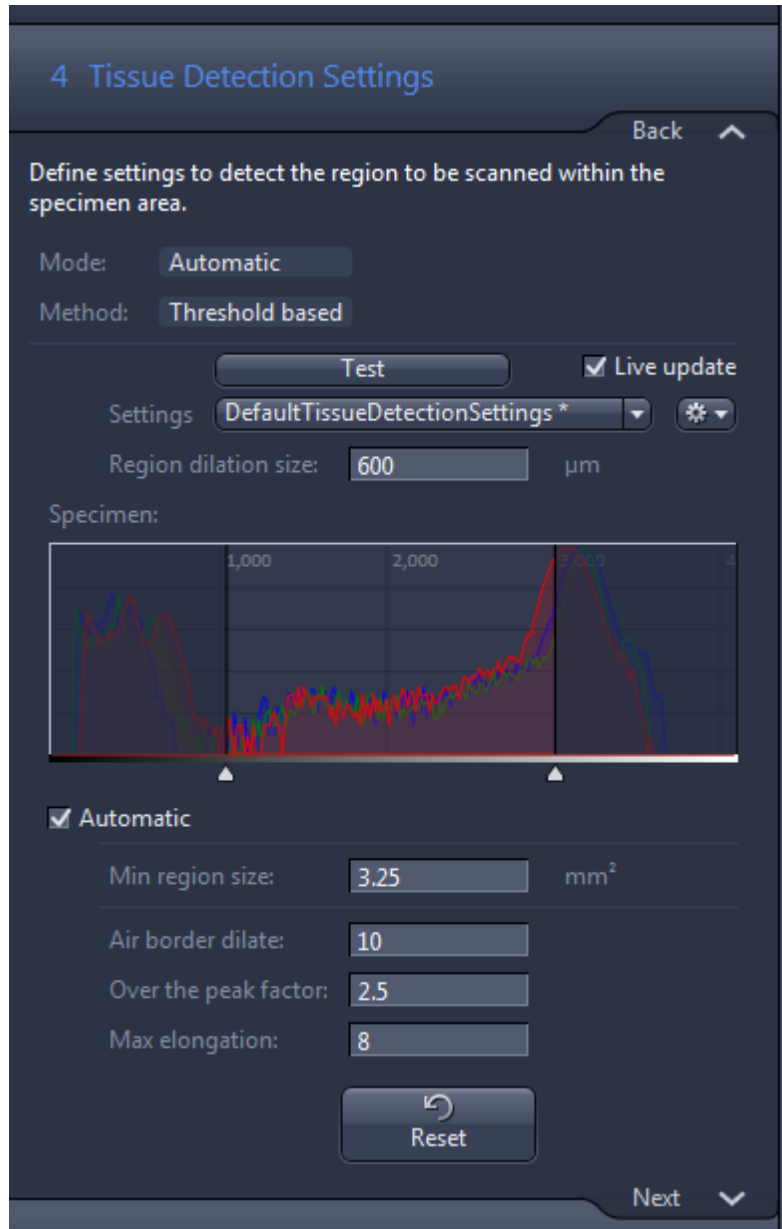

Figure 4 Tissue Detection dialog window
Having defined the region within which the tissue detection will be measured, it is now necessary to perform the actual **tissue detection** (TD). Figure 4 (below) shows the actual dialog window for tissue detection in the ZEN scan software.
As can be seen in figure 4 (above), the principle component of tissue detection is the **preview image histogram**. This section will explain how to get the best results for difficult specimens using these settings.
The strategy that follows assumes that the user is making a **new global profile** and is using the **default settings** shown in figure 4 as a starting point.